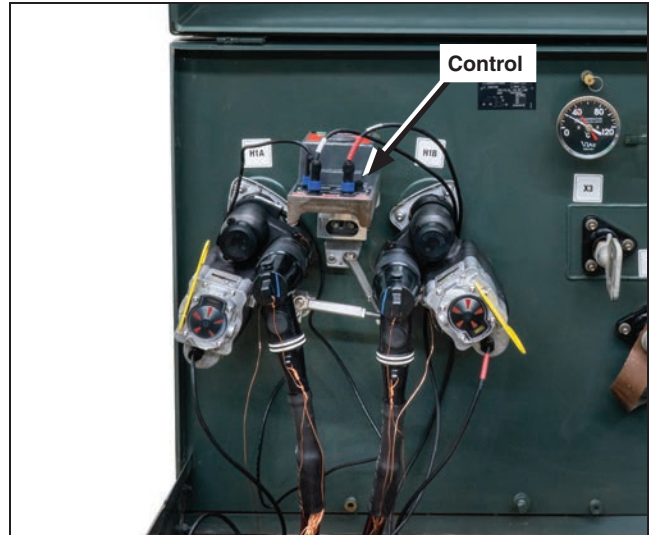

Figure 5. Location of control and control connections. A normally closed control is shown.
- STEP 1.** Disconnect the six pin power connector from the control. Then, disconnect the black 10-gauge wire that is attached to either X1 or X3 on the secondary transformer and the white 10-gauge wire attached to X2. Typically this is the lighting connection on the transformer secondary connections that can be used for this purpose. See Figure 5.